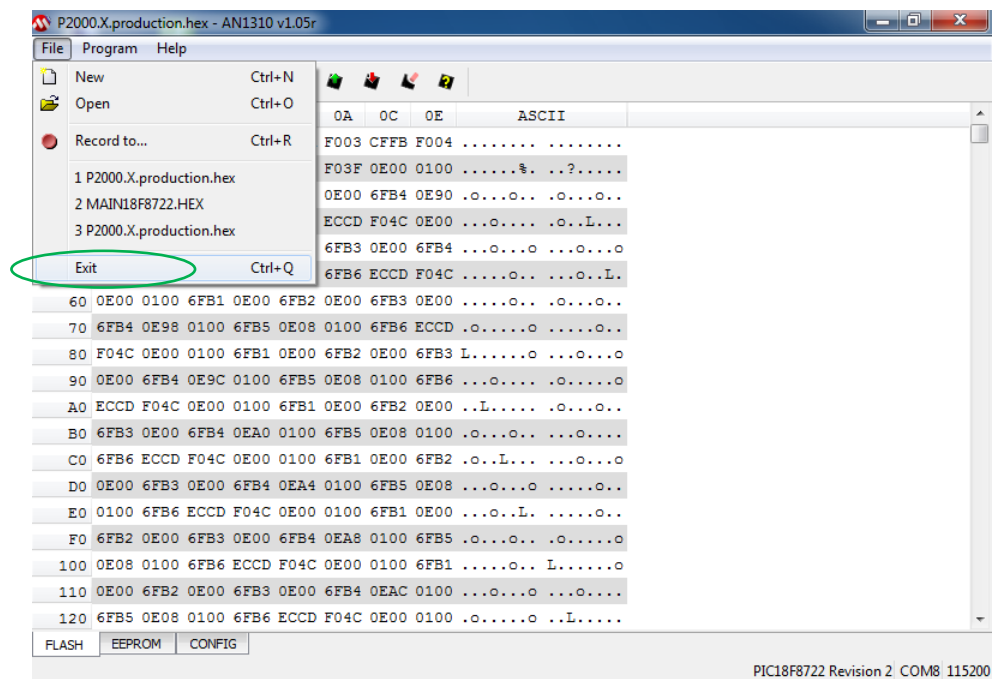

Figure 3.23
- Close the bootloader software (*Figure 3.23*).